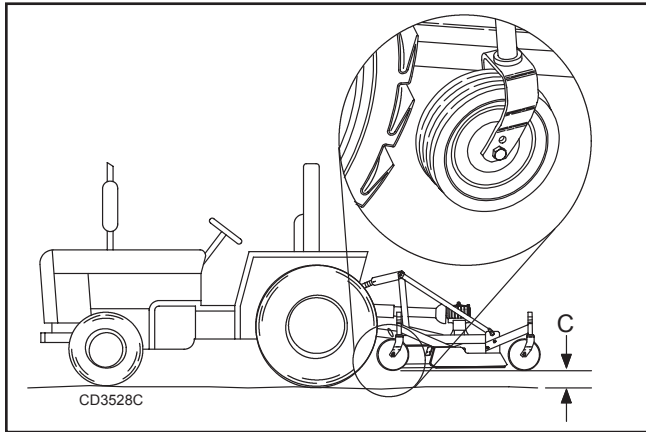

Figure 8. Front Caster Wheel Interference Check
1. Raise the mower slowly with the tractor hydraulics to 16" at dimension C, Figure 8, or maximum height of tractor lift, whichever is less.